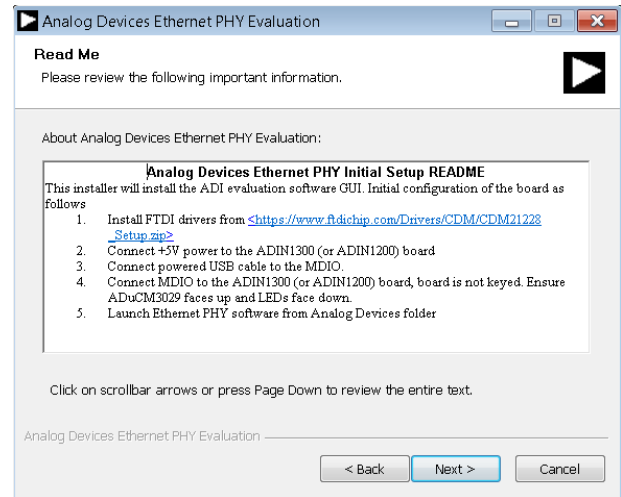

Figure 9. Installation Process Overview
4. The Ethernet PHY software launches. An overview of the software being installed and recommendations in terms of hardware power-up appears. Read the overview and click **Next** (see Figure 9).